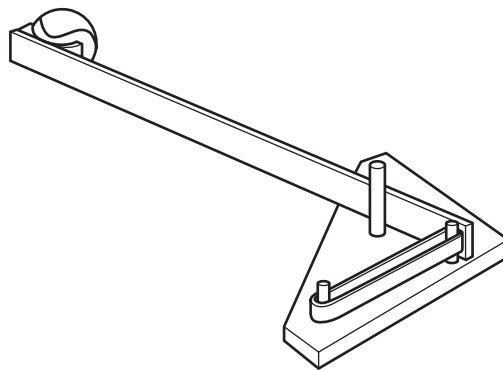

Fig. 2
- (b) Fig. 2 shows a design for catapult using a lever system.
- (i) Add labels to Fig. 2 to show: pivot; load; effort. [3]